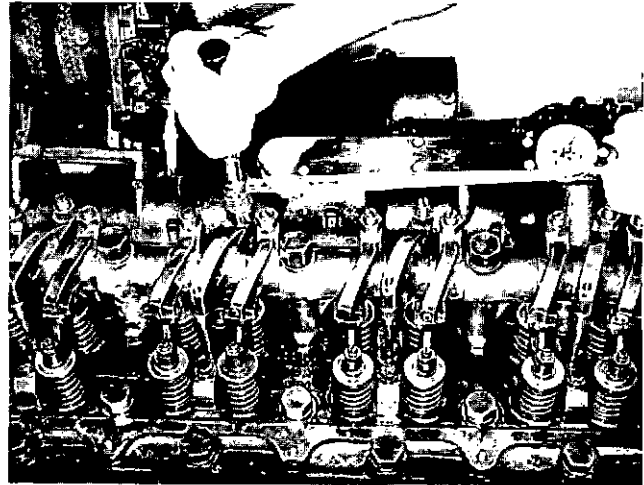

Fig. 2-40 (V51489) Tightening injector adjusting screw locknut
3. Hold injector adjusting screw and tighten injector locknut, Fig. 2-40, to values indicated in Table 2-7.